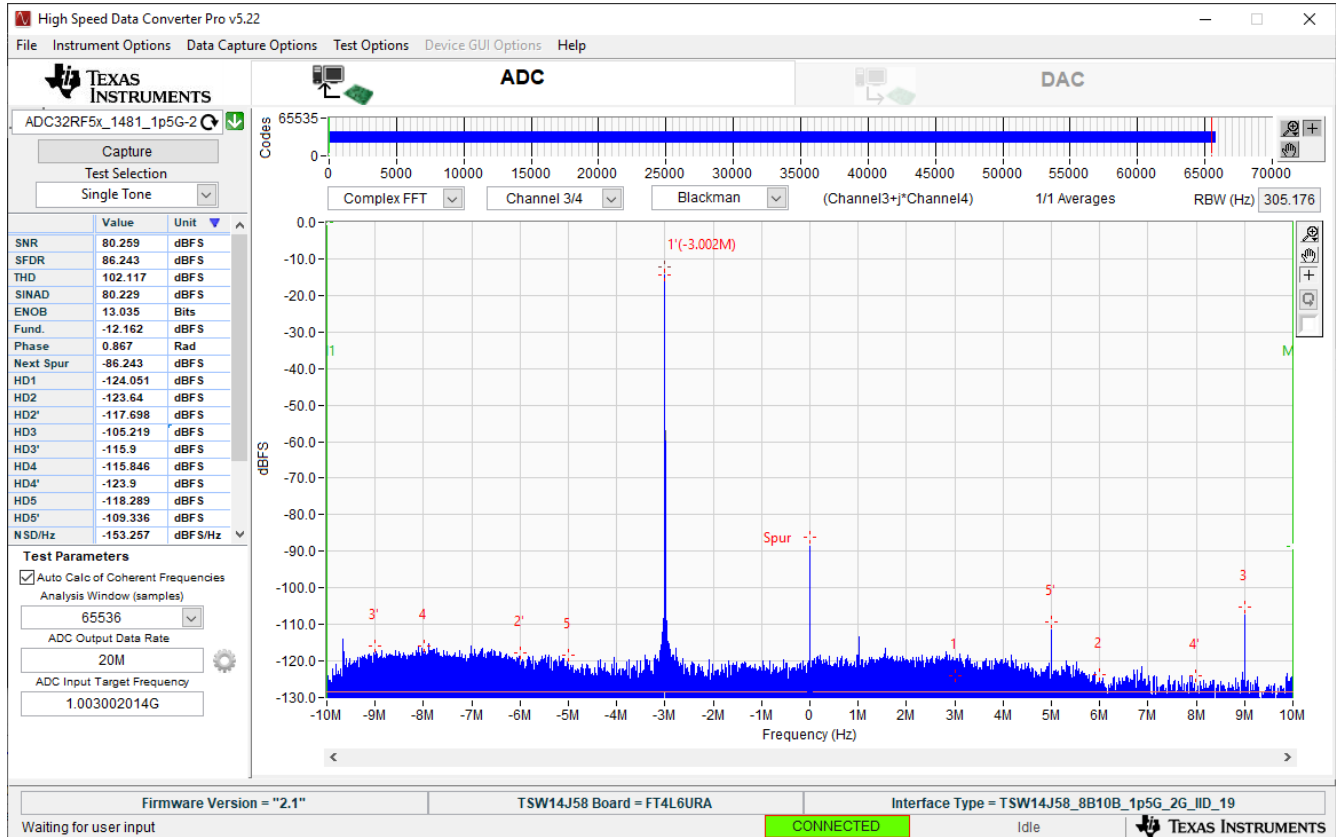

Figure 3-13. 1003.002MHz Input, 128x Complex Decimation, 2x Averaging, Dither Amplitude 3
17. Press the *Capture* button and a screen similar to Figure 3-13 shows.